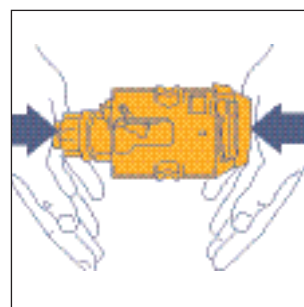

Fig.32
**NOTE 2:** if it is hard to insert the infuser, (before inserting it) press it vigorously from above and below at the same time, as shown in Figure 32.